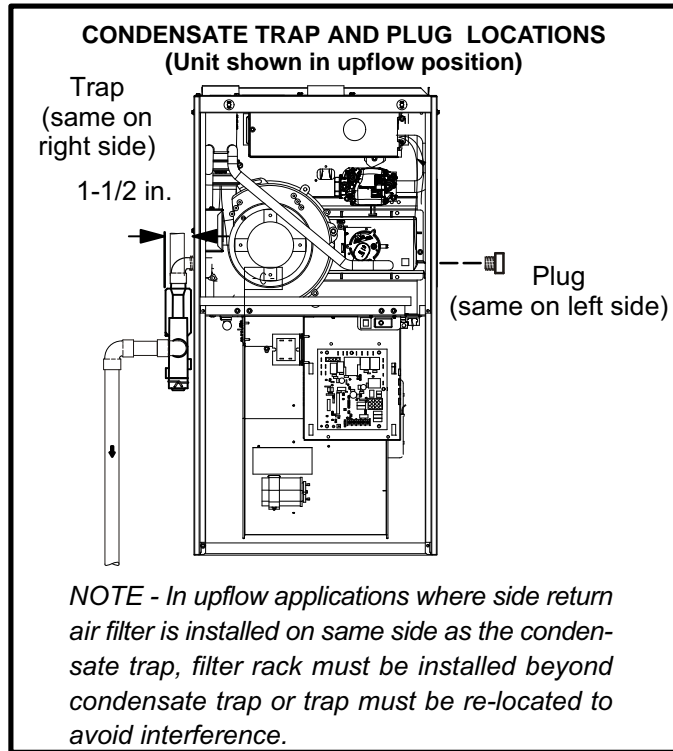

FIGURE 44
This unit is designed for either right- or left-side exit of condensate piping in upflow applications. In horizontal applications, the condensate trap must extend below the unit. An 8" service clearance is required for the condensate trap. Refer to figures 44 and 46 for condensate trap locations. Figure 52 shows trap assembly using 1/2" PVC or 3/4" PVC.
- 2 - Use a large flat head screw driver or a 1/2" drive socket extension and remove plug (figure 44) from the cold end header box at the appropriate location on the side of the unit. Install provided 3/4 NPT street elbow fitting into cold end header box. Use Teflon tape or appropriate pipe dope.